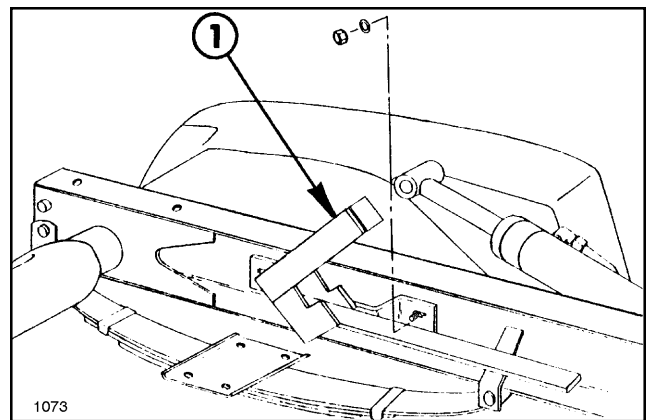

FIG. 7
1. Loosen and remove the (2) 3/8" nuts and attaching bolts that hold the left rear fender to the vehicle frame. Install a 10 GA. flat washer on each bolt and install the bolt through the fender and vehicle frame and mount the tank support bracket with these bolts. Reinstall the nuts and tighten securely. If not equipped with fenders, use the hex hd cap screws and nuts provided. See FIG. 7.